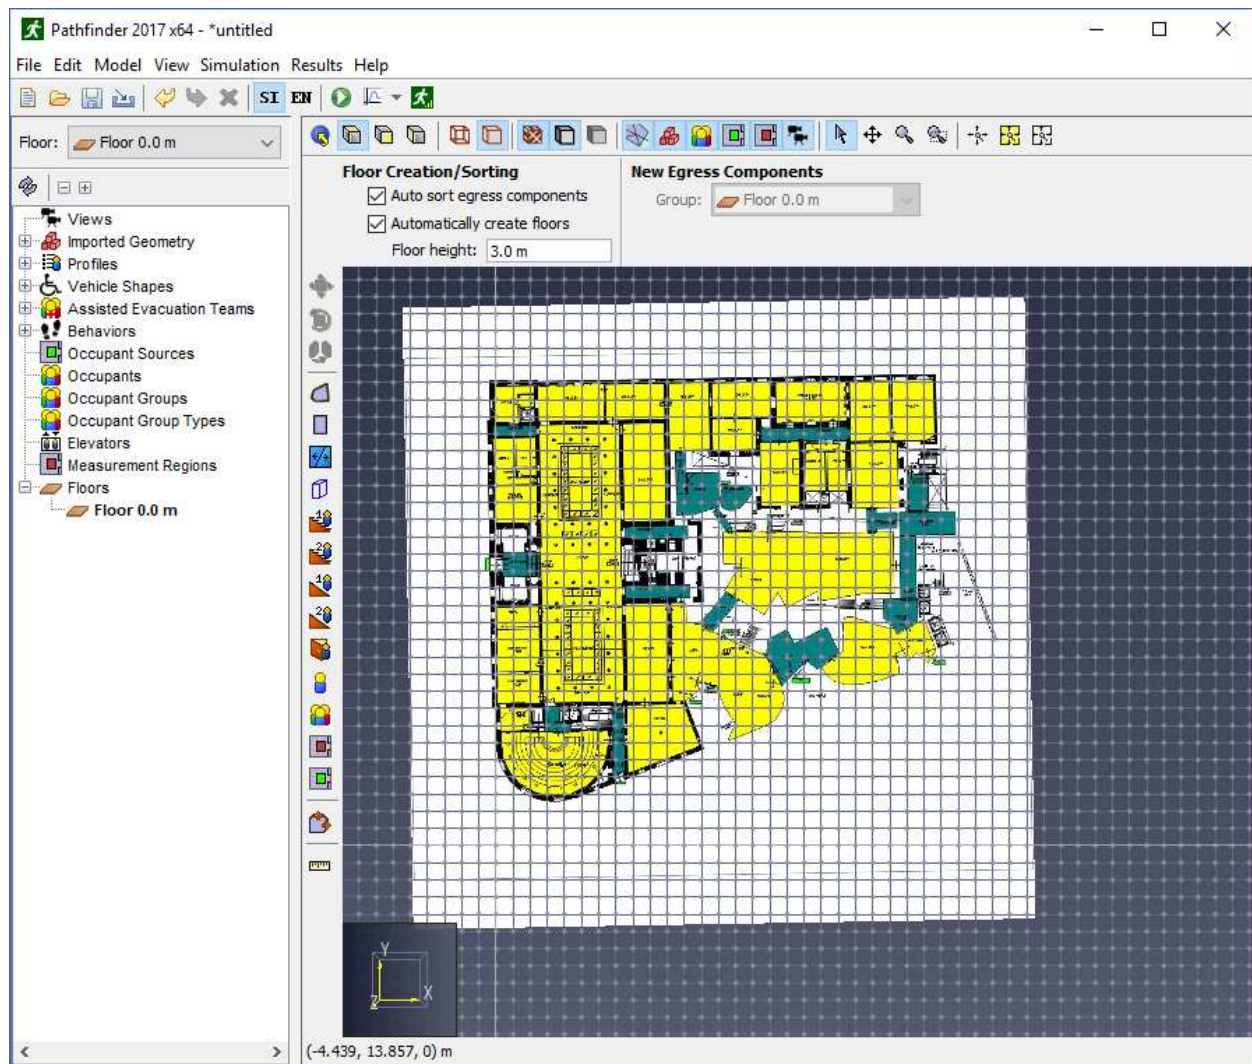

Figure 67. Background image added to the model.
5. Click **OK** and the image will be placed in the model as specified (Figure 67).